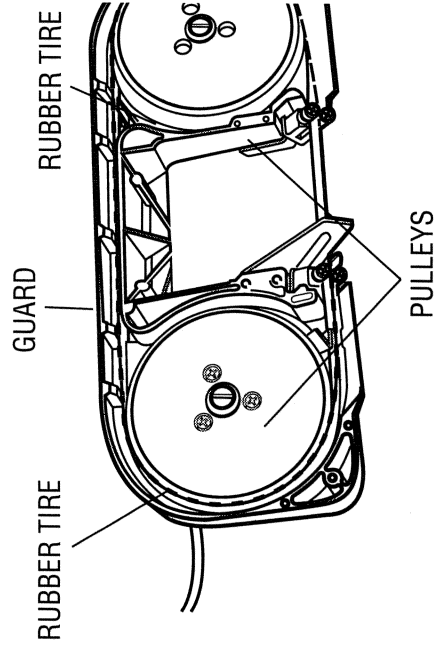

Figure 9
- D. Make sure that the blade is fully inserted into the blade guides (against the back edge support rollers shown in Figure 9), and positioned squarely against the rubber tires.